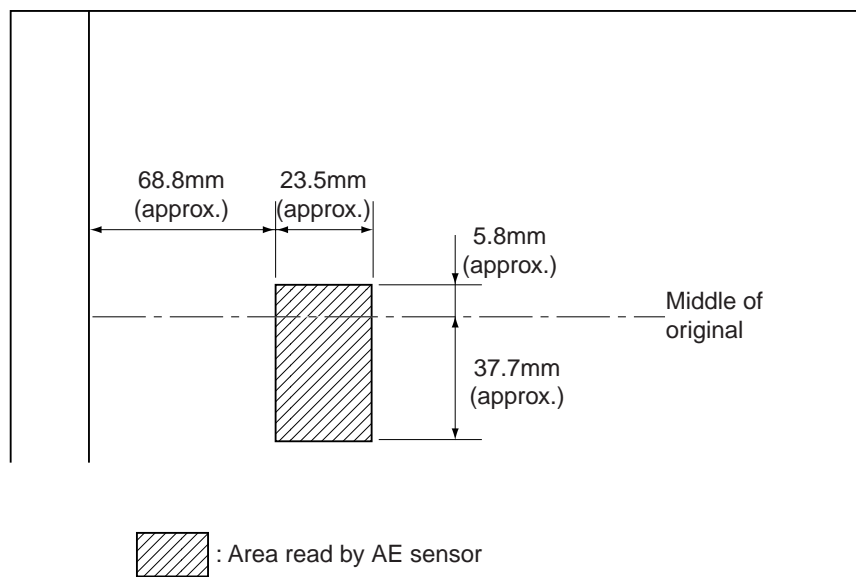

Figure 4-112
When measuring the density of an original, the scanner turns on the scanning lamp, and moves to a point 115 mm from the home position. At this time, the AE sensor reads the level of light reflected by the area shown in Figure 4-112, and sends the AE signal (AE) to the DC controller PCB.